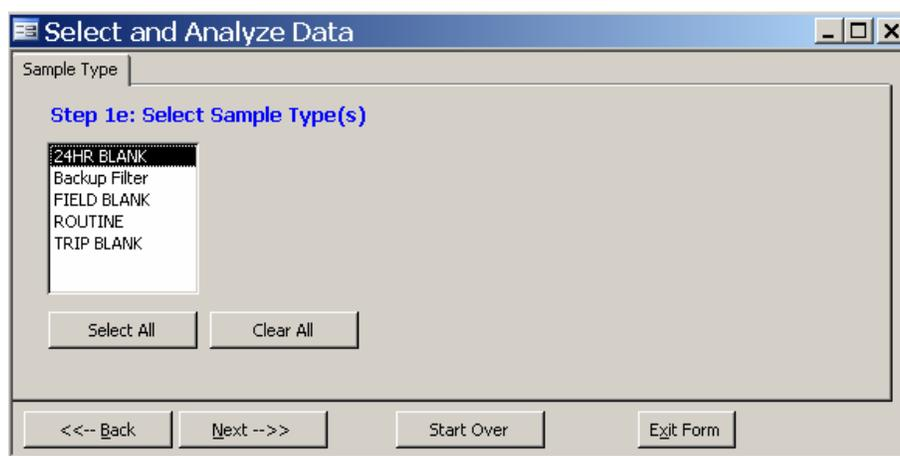

Figure 4-7. Select Sample Type(s) form.
- “Next -->>,” which indicates that your choices are complete and moves you to the Select Sample Type(s) form (Figure 4-7)
The next form to be displayed is the Select Sample Type(s) form (Figure 4-7).
- “<<-- Back,” which returns you to the Select Sample Type(s) form (Figure 4-7).